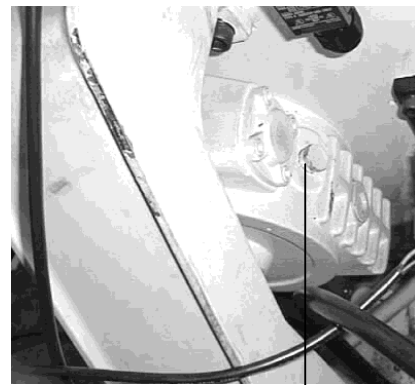

Fig.21 A
3. Drain the gearbox by removing the screw away from the oil-out hole (A) (fig. 21).